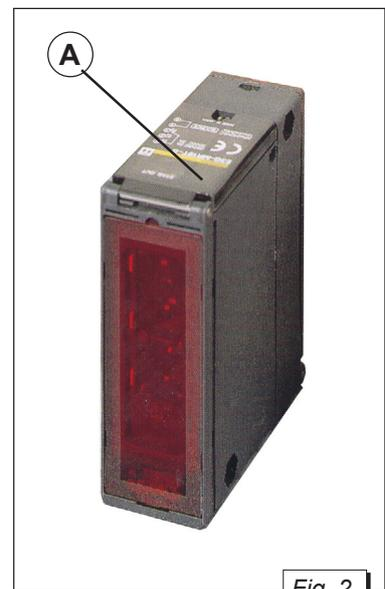

Fig. 2
- confirmation of platform sensing by photocell SF2A (see fig.2 of this chap.) before the I conveyor's stop;
02 = STOP ON SF9 = Numeric settable field, it allows entering a time (in hundredths of a second) for confirmation of platform sensing by photocell SF9 (see fig.2 of this chap.) before the II conveyor's possible stop.
03 = STOP ON SFA = Numeric settable field, it allows entering a time (in hundredths of a second) for confirmation of platform sensing by photocell SFA (see fig.2 of this chap.) before the III conveyor's possible stop.
04 = STOP ON SFB = Numeric settable field, it allows entering a time (in hundredths of a second) for confirming the platform sensing by photocell SFB (see fig.2 of this chap.) before the IV conveyor's possible stop.
05 = STOP ON SFC = Numeric settable field, it allows entering a time (in hundredths of a second) for confirming the platform sensing by photocell SFC (see fig.2 of this chap.) before the V conveyor's possible stop
06 = STOP FROM SF9 = Numeric settable field, it allows entering a time (in hundredths of a second) for confirming the failed outfeeding platform sensing by photocell SF9 (see fig.2 of this chap.) to the III conveyor before the possible start of the I conveyor, with an outfeeding pallet.
07 = STOP FROM SFA = Numeric settable field, it allows entering a time (in hundredths of a second) for confirming the failed outfeeding platform sensing by photocell SFA (see fig.2 of this chap.) to the IV conveyor before the possible start of the II conveyor, with an outfeeding pallet.
08 = FROM ROLLERS = Numeric settable field, it allows setting the number of counts with proximity switch SPF (see fig.3) to stop the arch rise in the automatic running mode, if photocell SF2D (see fig.2) is not dimmed by the pallet, before being able to move the closed clamp forward.
**7.2 ADJUSTMENT AND CONTROL OF THE PHOTOCELLS WITH REFLECTOR (fig.2)**
Once the machine is fed, check that, in case of no obstacles on the trajectory of the optical beam, the red light **[A]** (see fig.2), is lit. If this is not the case, adjust the reflector or photocell in such a way to reflect the beam. The adjustment can occur manually by exerting a slight pressure on the brackets, if this is not sufficient loosen the supporting screws and adjust properly.